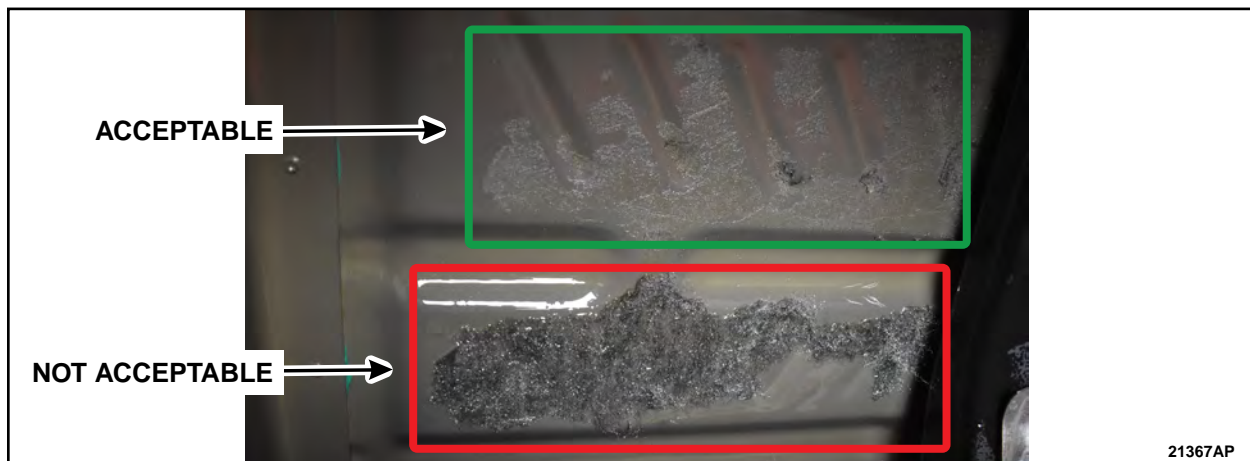

FIGURE 12
12. Using both hands and/or a plastic scraper, remove as much of the remaining substrate material as possible. See Figure 12.